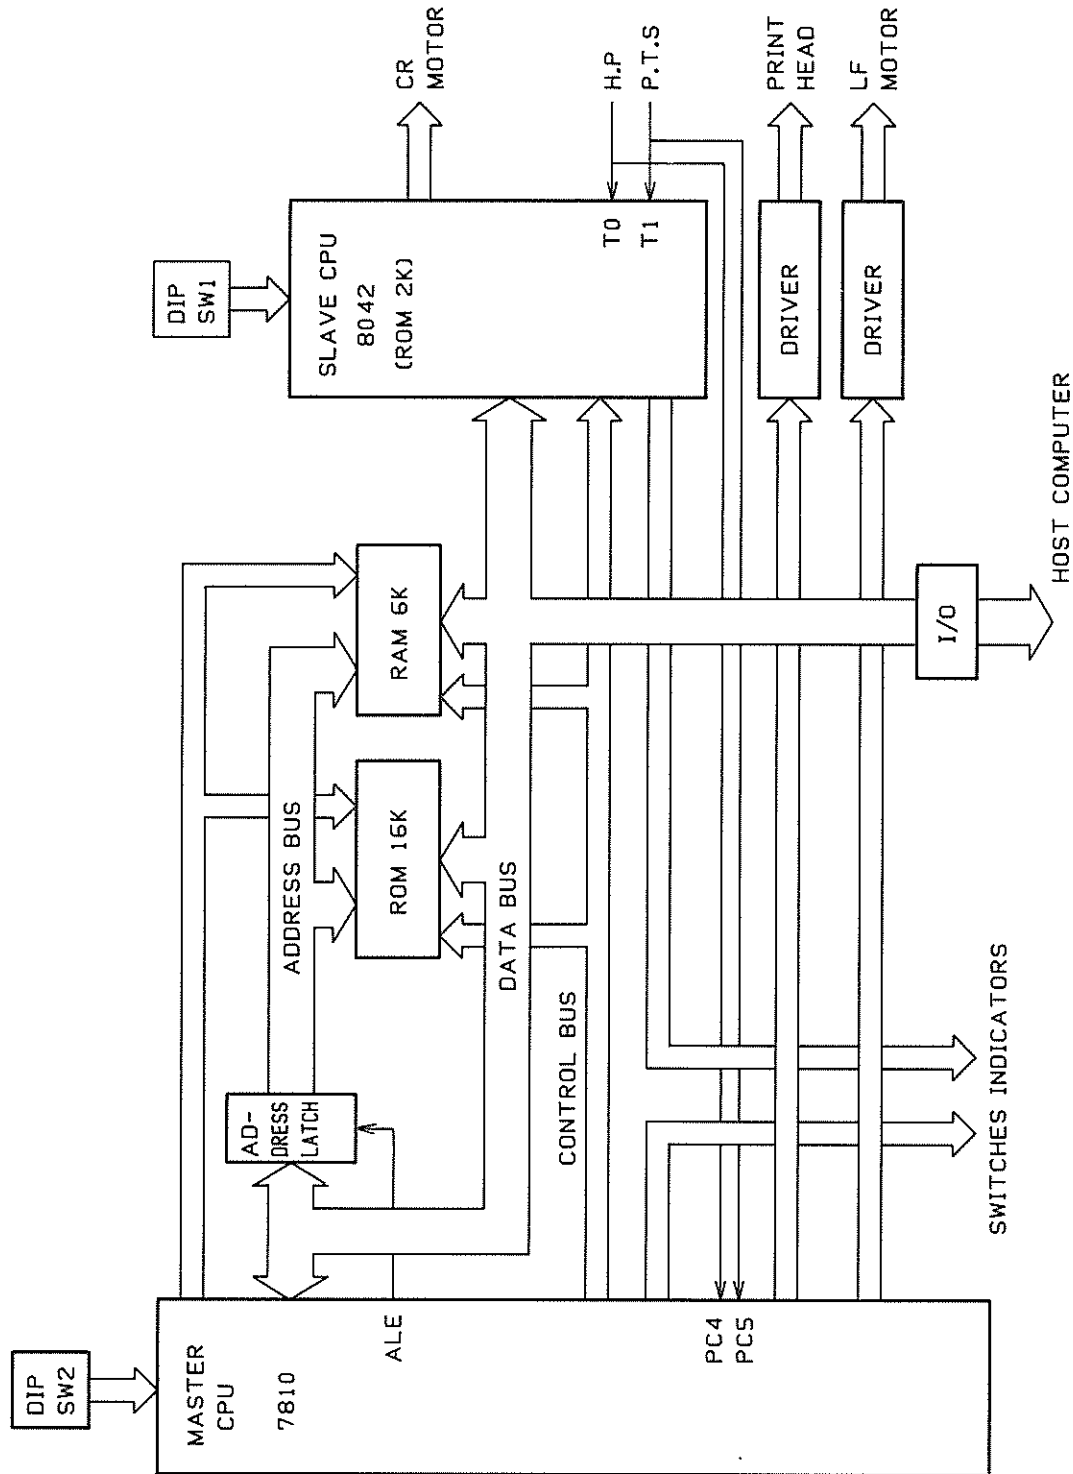

Fig. 2-2. FXMB Block Diagram (for the FX-80+/100+)
The FXMB PC board is used for the FX-80+/FX-100+ and the FX-85/FX-185 (105) printers. However, the functions of the ROM and RAMs of the FXMB in the FX-80+/FX-100+ are different from those in the FX-85/FX-185 (105) printers. Furthermore, the FX-85/FX-185 (105) printers have the FXEXT board that allows near letter quality printing. Figure 2-2 shows a block diagram of the FXMB in the FX-80+/FX-100+ printers; Figure 2-3 shows a block diagram of the FXMB in the FX-85/FX-185 (105) printers.